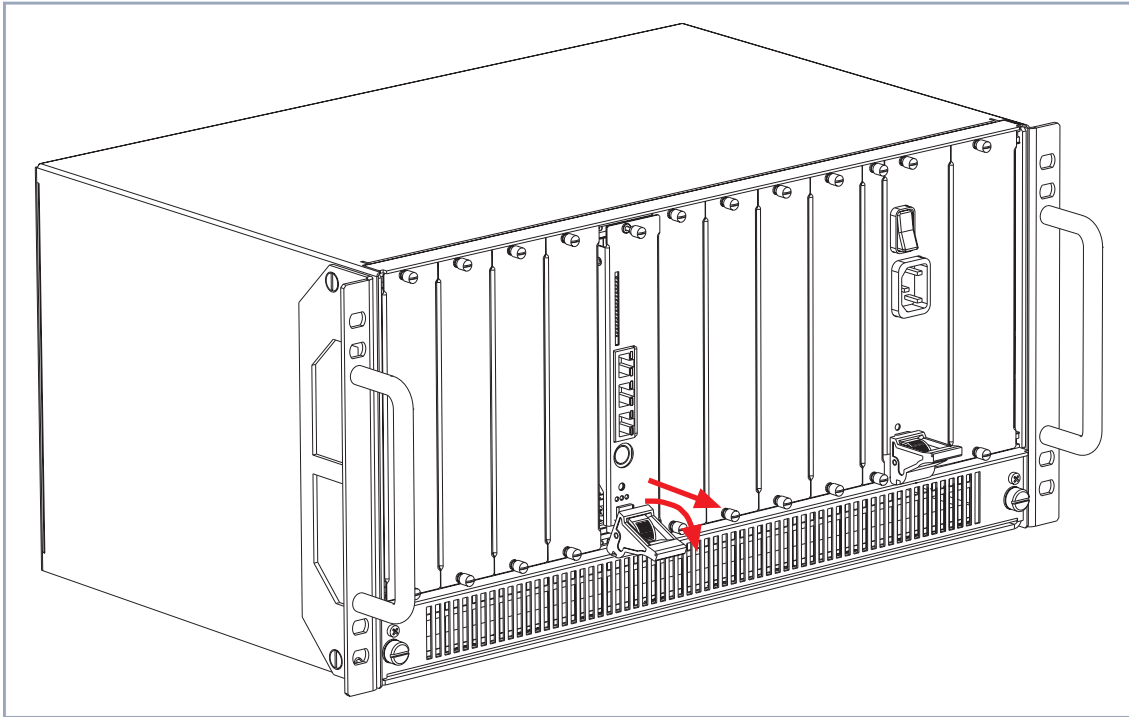

Figure 4-7: Removing an expansion card, step 2
- Push the injector/ejector handle further down until the expansion card comes out of its position (see figure 4-7, page 42).